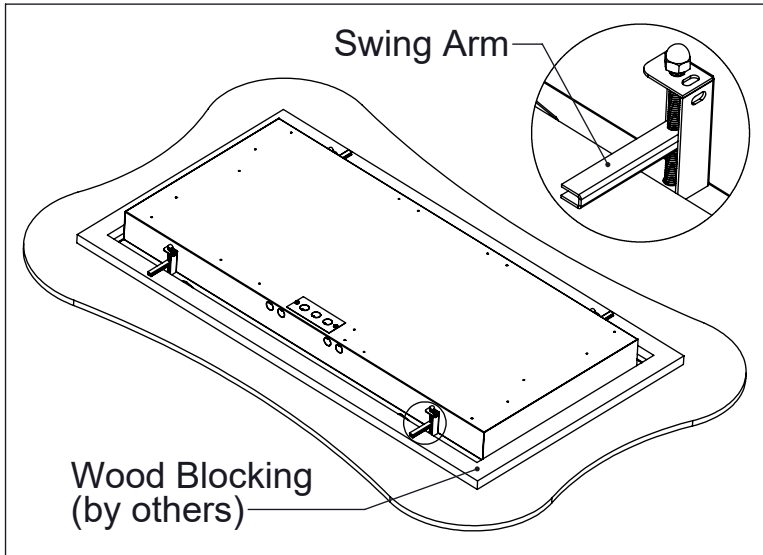

Figure 5
5. Rotate Swing Arms over Wood Blocking (Fig. 5).